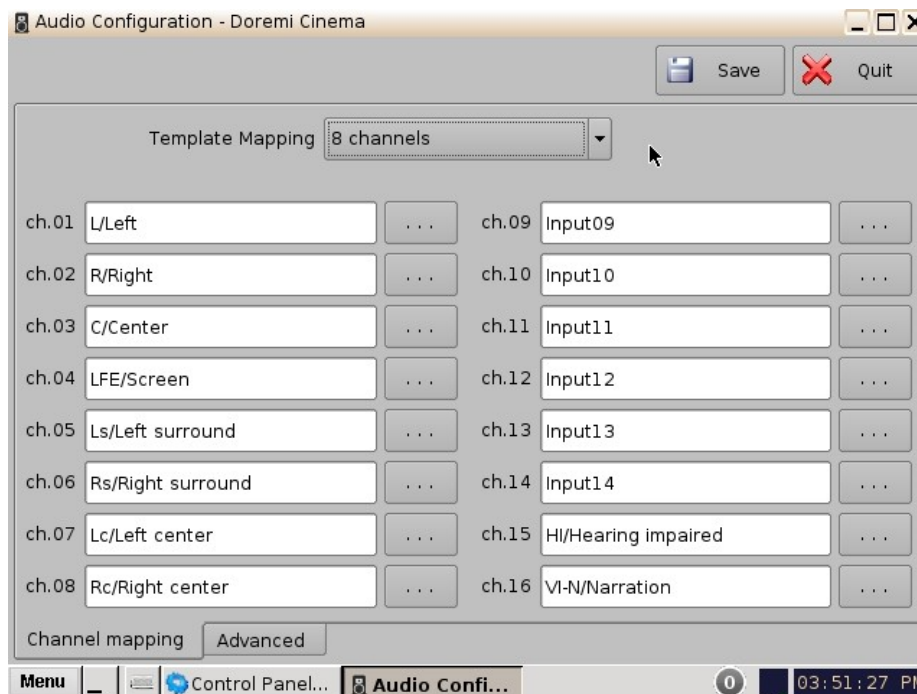

Figure 33: Audio Mapping Set to 8 Channels
- This configuration is defined as follows (Figure 33):
- **ch.01 is Left (L):** Output ch.01 will be playing the CPL's Left (L) audio channel.
- **ch.02 is Right (R):** Output ch.02 will be playing the CPL's Right (R) audio channel.
- **ch.03 is Center (C):** Output ch.03 will be playing the CPL's Center (C) audio channel.
- **ch.15 is HI:** Output ch.15 will be playing the CPL's Hearing Impaired (HI) audio channel.